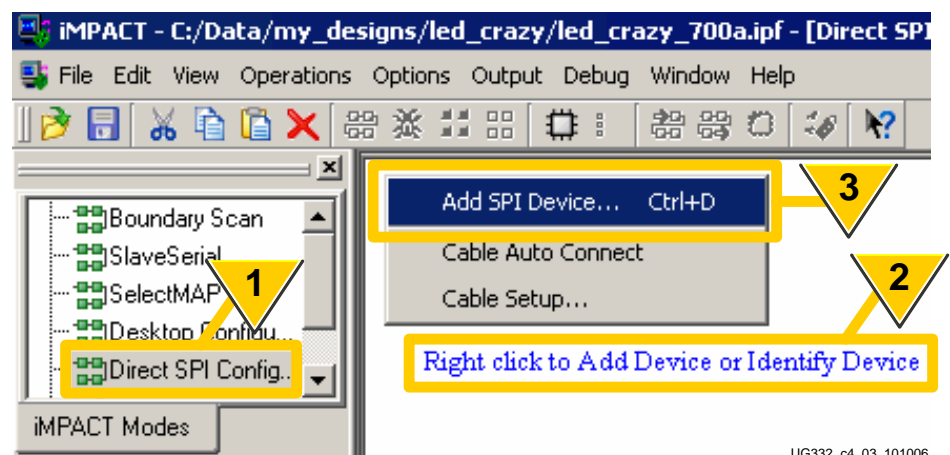

Figure 4-16: iMPACT Supports Direct Programming for SPI Serial Flash Memories.
1. Click **Direct SPI Configuration** from within iMPACT, as shown in Figure 4-16.